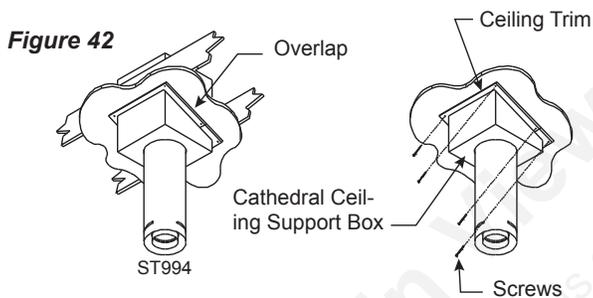

Figure 42
**Step 9.** Install the black trim collar around the outside of the Cathedral ceiling support box. The two pieces of the trim collar slide over one another to allow for easy adjustment around the support box. Using the six (6) screws provided, secure the four corners and the overlapping sections of the trim collar to the underside of ceiling. You may want to predrill the holes for the overlapped sections for ease of installation. (Fig. 42)